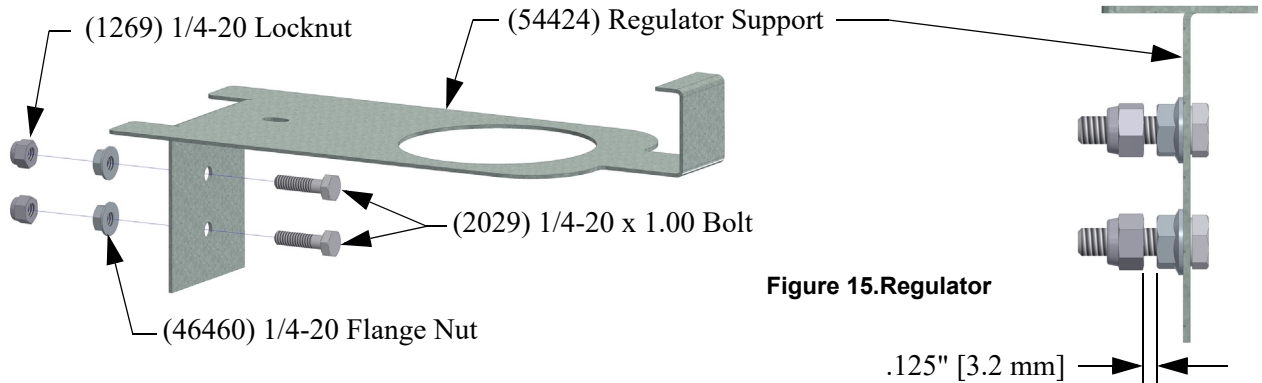

Figure 15.Regulator
1. Install (2029) Bolts and (46460) Flange Nuts in the (54424) Regulator Supports (As Shown in Figure 15.).